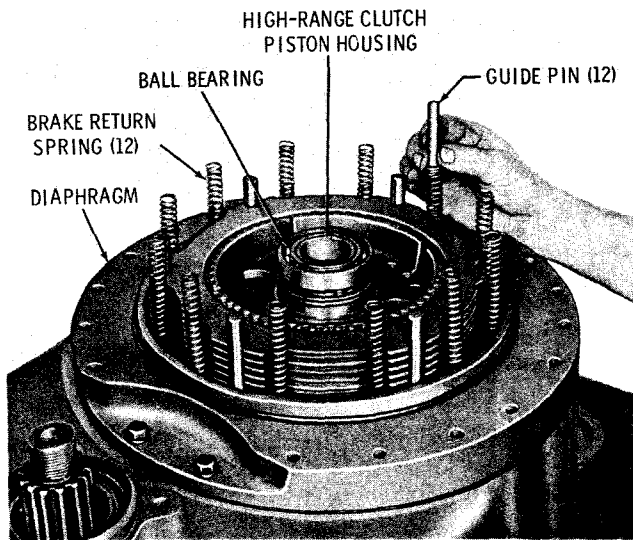

Fig. 7-29. Installing brake return spring guide pins (TTB)
(4) Install the ball bearing onto the hub of the high-range clutch piston housing (fig. 7-29).
(5) Install the twelve brake return springs, flared end first, into the recesses in the diaphragm. Twist the springs counter-clockwise to seat them in the recesses and drop the twelve guide pins into the springs.